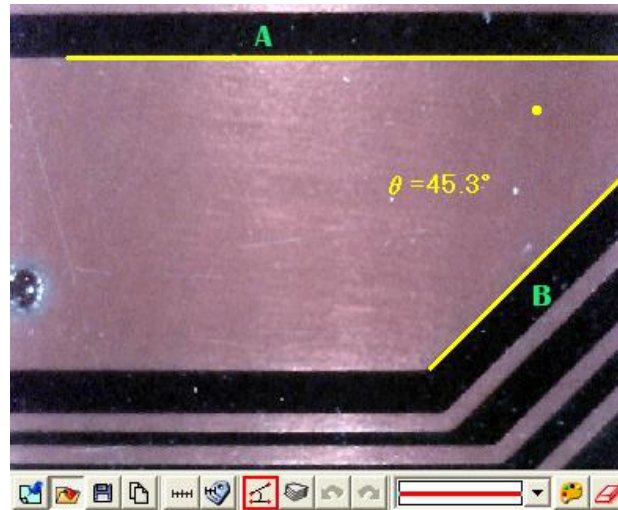

Fig 5-72 4 Points Chamfer
- (7) 4 Points Angle: Use  to measure an angle but only see 2 unparallel lines shown on the object. See Fig 5-72, to draw a 1st line from the object (see line A), and to draw the other unparallel line (see line B), the angle can be automatically calculated. See Fig 5-72. There is a small dot show 45.3° .
There are lines styles shown in Fig.5-72 and can choose different lines.